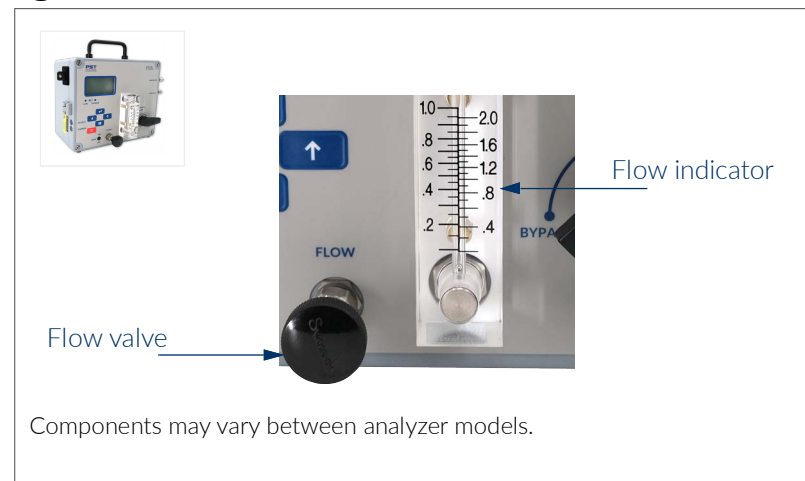

Figure 1 - Setting flow rate: GPR-1200
2. Set the flow rate to 1...2 SCFH (refer to Figure 1 on page 4), and allow the span gas to flow for 2...3 minutes to purge the bypass valve.